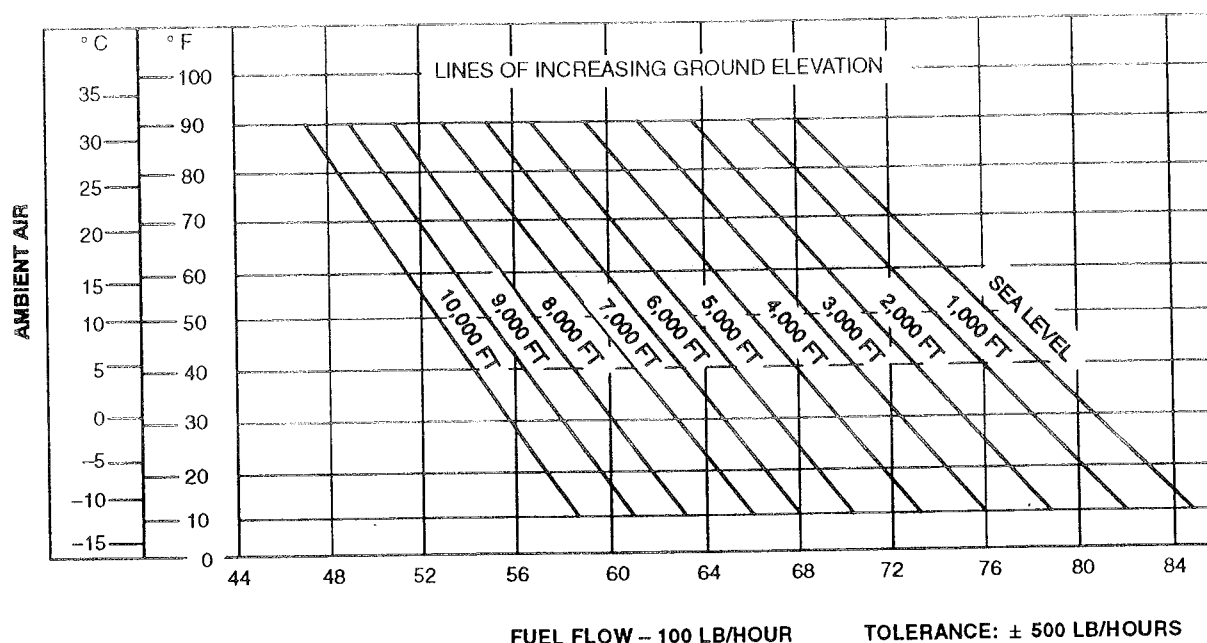

Figure 2-5
- e. Fuel flow — Check. See Figure 2-5